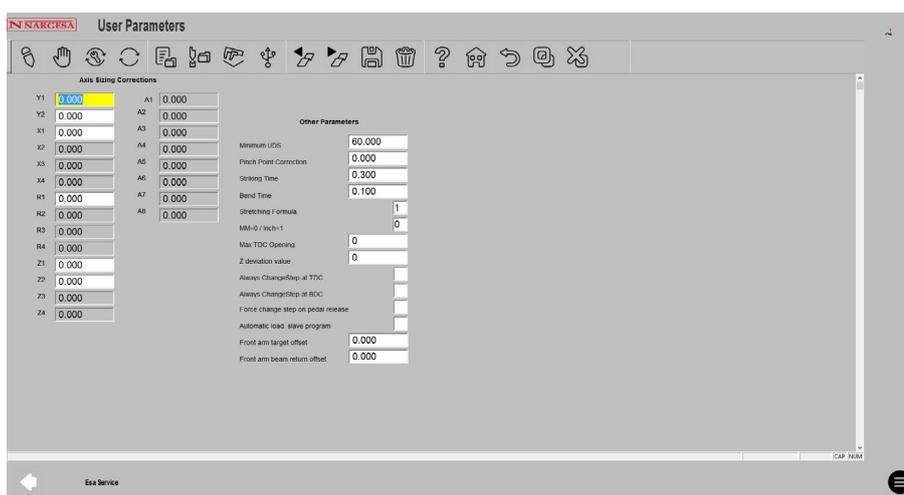

Figure 54. User Parameters page
- this page contains the following information (figure 54):